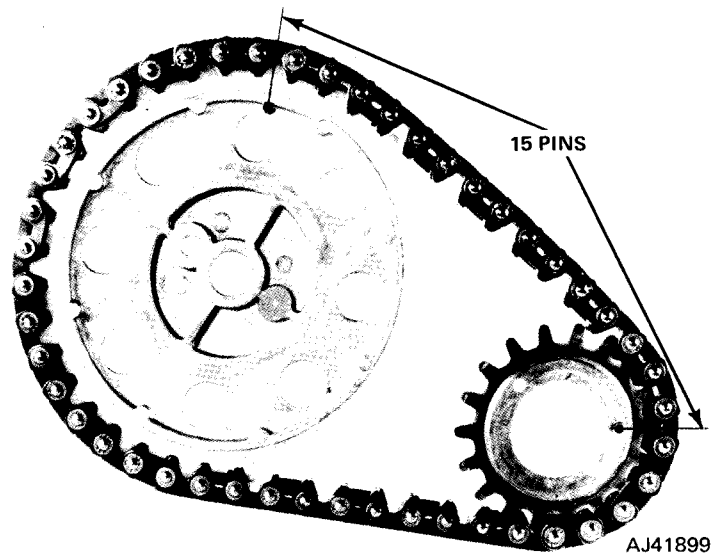

Fig. 1A-29 Timing Chain Installation
- (1) Remove cylinder head cover and gasket.
- (2) Remove rocker arms and bridged pivot assemblies.
- (3) Remove spark plugs.
- (4) Install a dial indicator on end of push rod (use piece of rubber tubing between dial indicator plunger to push rod) (fig. 1A-30).
- (5) Rotate crankshaft until cam lobe base circle (push rod down) is under valve tappet. Set dial indicator to zero.
- (6) Rotate crankshaft until push rod reaches its maximum upward travel. Read travel at dial indicator. Correct cam lobe lift is 0.226 to 0.238 inch.